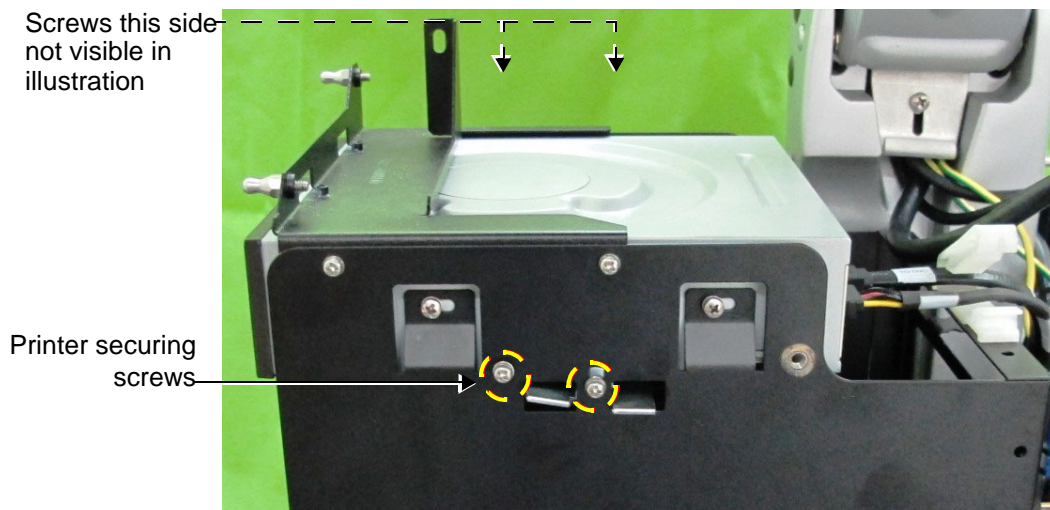

Figure 8-282 Screws Securing Black and White Printer in Compartment
2.) Loosen the two lower Phillips screws on either side of the Peripherals Console (that secures the Black and White Printer in position), as indicated in Figure 8-282.
- 3.) Tighten the two lower Phillips screws previously released from either side of the Peripherals Console (refer to Figure 8-282). Make sure the printer is firmly secured in position.